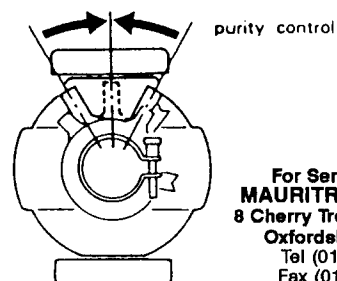

Fig. 4-1.
2. Adjust the white balance, convergence and focus coarsely, and then set purity controls to center position as shown in Fig. 4-1.